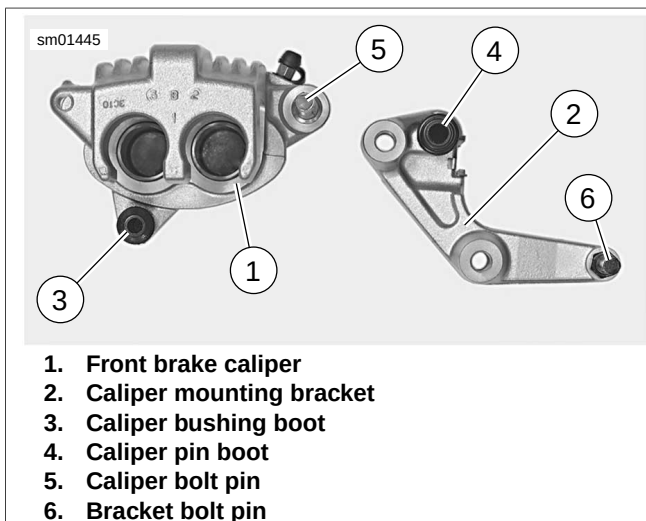

Figure 2-89. Lubricating Caliper Boots and Pins
1. See Figure 2-89. Apply approximately 0.4 g of G40M BRAKE GREASE inside caliper bushing boot (3) and caliper pin boot (4).